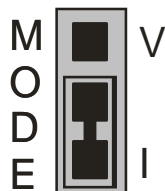

Figure 3. Input type jumper
The jumper labeled **MODE V-I** sets the input type to either voltage (V) or current (I). The CIO-DAS48-I is configured for current inputs, so set this jumper for **I** (Figure 3). Move the jumper from **V** to **I** *only* if you have installed the CIO-DAS48-ISIP kit.